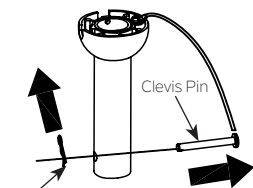

Fig. 8
Step 3. Remove the hairpin and clevis pin from the downrod assembly, retain for later use.(Fig.8)